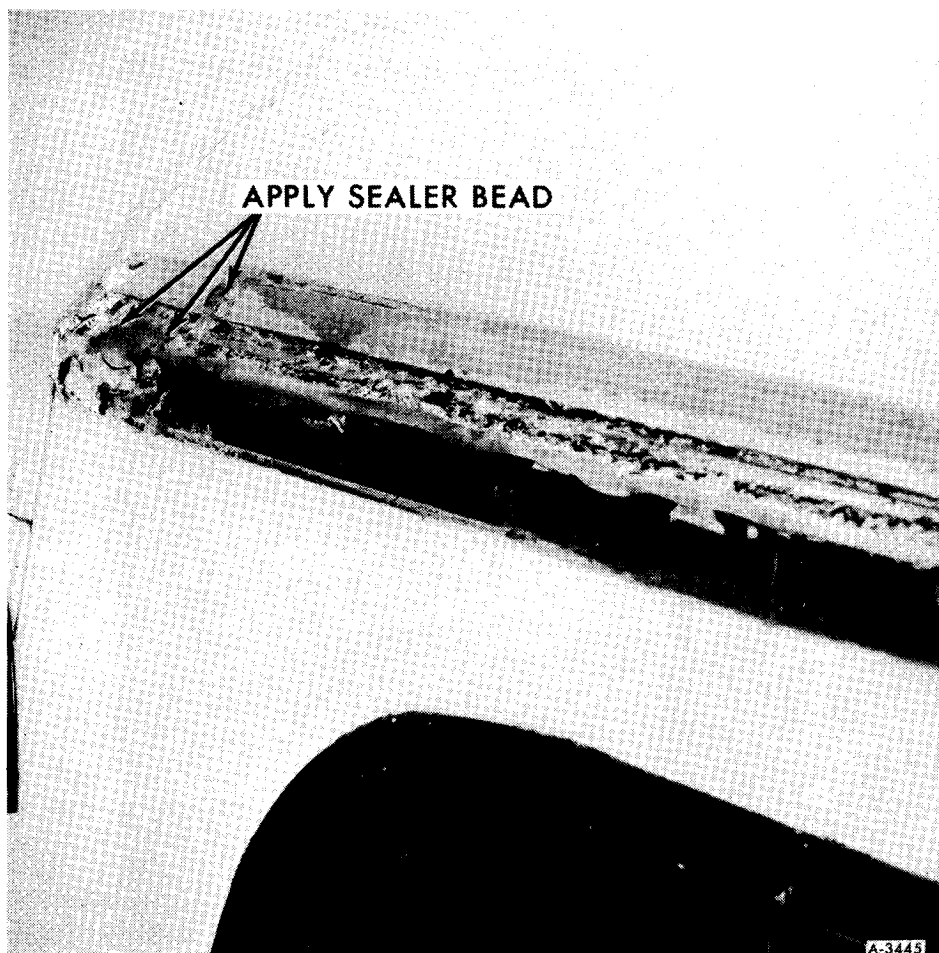

FIGURE 2
3. Apply sealer to thoroughly fill cavity as shown in Figure 2.